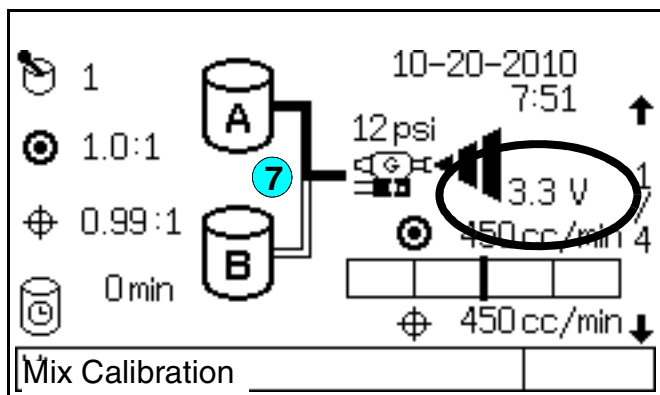

FIG. 85. Status Screen
- Return to the **Status Screen** (see FIG. 85). The status bar at the bottom of the screen will indicate that Mix Calibration is in progress.
- On the **Status Screen** (see FIG. 85), the voltage will start at 0 and increase incrementally to 3.3 V. The flow rate will also begin to increase during calibration, but this may not show for the first few voltage increases.